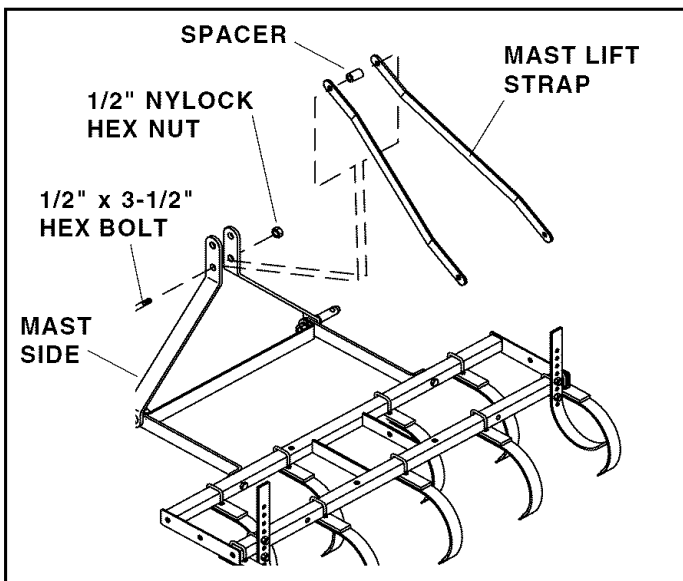

FIGURE 5
- Arrange the mast lift straps as shown in figure 5. Place the straps and the spacer between the mast sides, fastening them to the lower hole in the mast sides using a 1/2" x 3-1/2" hex bolt and 1/2" Nylock hex nut. **Do not tighten yet.**